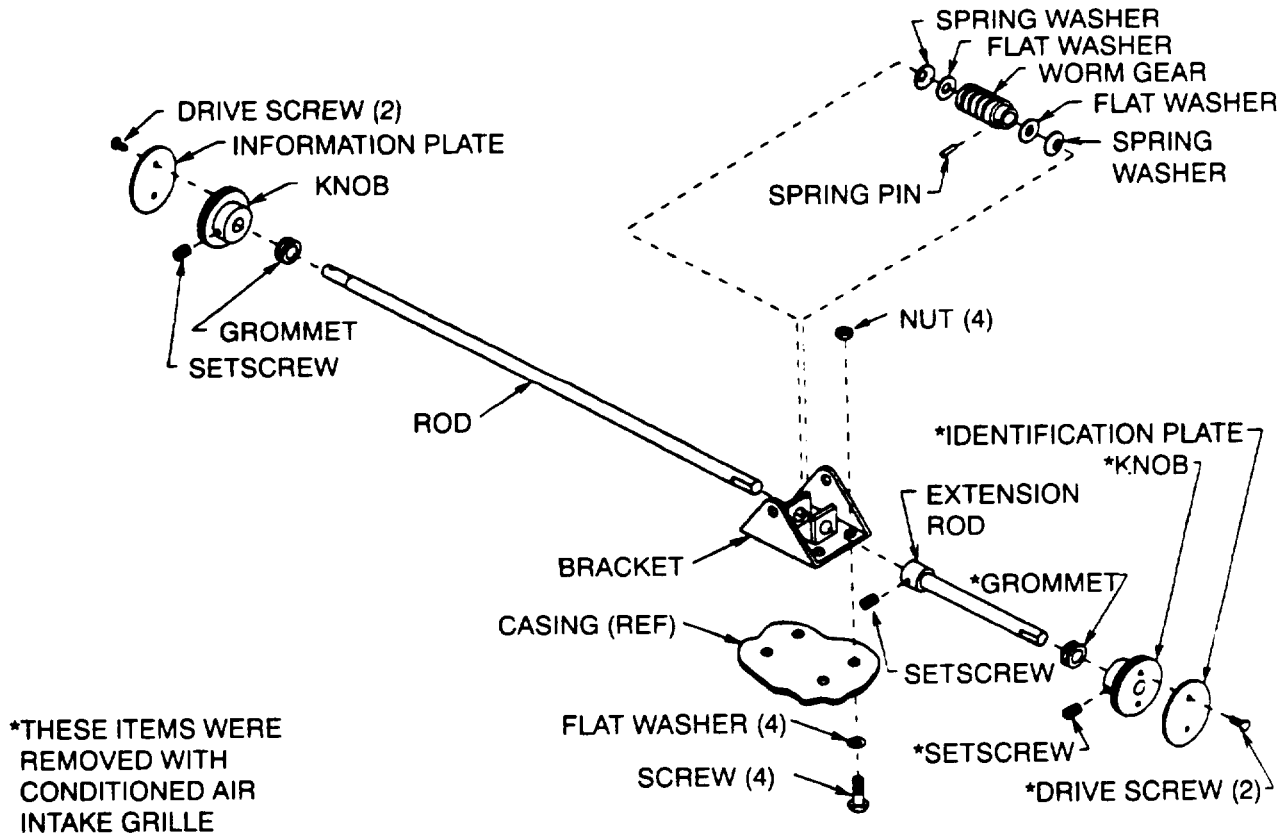

Figure 4-45. Fresh Air Damper Actuator Mechanism
- (1) Using screwdriver and wrench, secure bracket to casing with four screws, flat washers, and nuts. (See Figure 4-45.)
- (2) Reinstall grommet in rear of casing, if it was removed or missing.
- (3) Install knob on rod end if it was removed.
- (4) Insert rod through grommet in rear of casing and through the first hole in the bracket.
- (5) Install spring washers, flat washers, and worm gear and insert rod through the remaining bracket hole. (See Figure 4-45.)
- (6) Aline holes in worm gear and rod and install spring pin.
- (7) Slip extension rod onto end of rod,
- (8) Aline setscrew with flat on end of rod and tighten setscrew with allen wrench.
- (9) Aline condenser motor channel support mounting holes with casing holes.